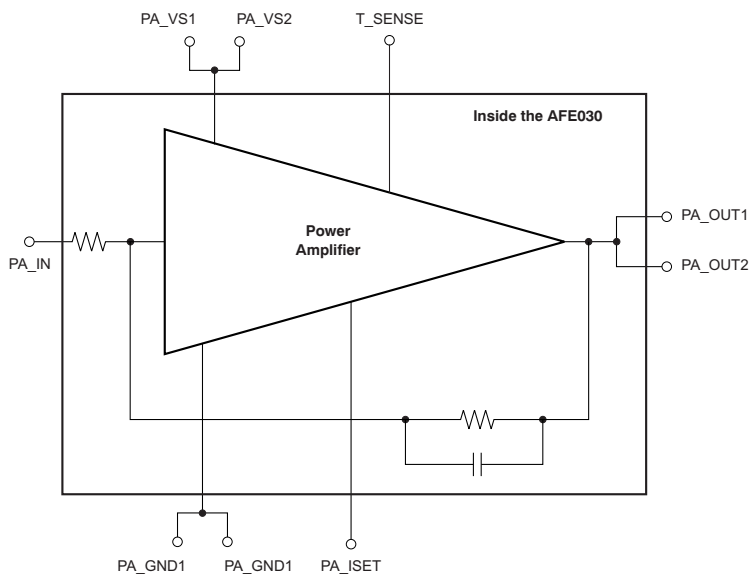

Figure 25. PA Block Equivalent Circuit
The Power Amplifier (PA) block consists of a high slew rate, high-voltage, and high-current operational amplifier. The PA is configured with an inverting gain of 6.5 V/V, has a low-pass filter response, and maintains excellent linearity and low distortion. The PA is specified to operate from 7 V to 26 V and can deliver up to ± 1.0 A of continuous output current over the specified junction temperature range of -40°C to $+125^{\circ}\text{C}$. Figure 25 illustrates the PA block.